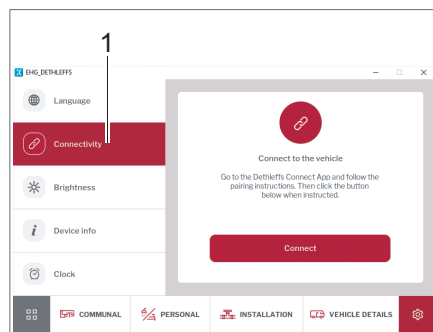

Fig. 270 Connection
- Click on the *Connection* (Fig. 270,1) button.